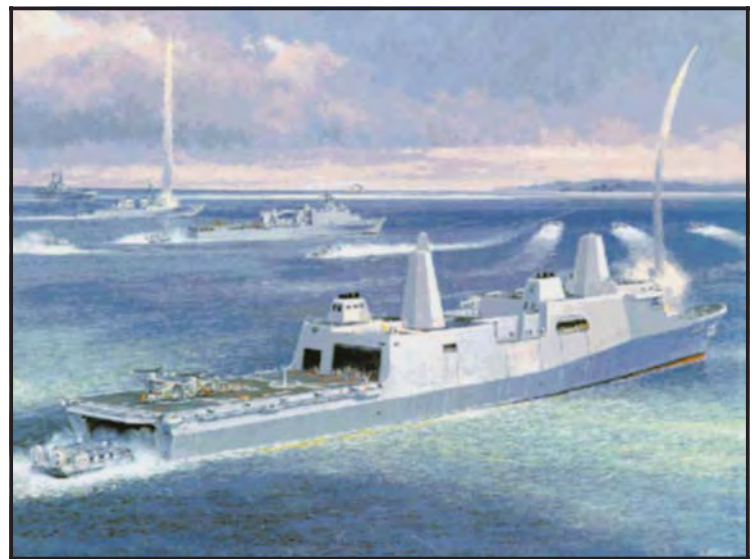

**Figure 1. USS Radford with Advanced Enclosed Mast/Sensor (AEM/S) mast.** (Courtesy U.S. Navy and Space and Naval Warfare Systems Center, San Diego)
The ITD project is critical to the combat effectiveness of U.S. Navy ships, as they house a multitude of important equipment. The topside of a modern U.S. Navy surface combatant is a sophisticated assortment of weapons, electromagnetic (EM) radiators, and other hardware. Large numbers of antennas, transmitters, and receivers are required to meet radar, electronic warfare, information warfare, and communication requirements. An increasing inventory of EM systems is constantly being added to meet requirements for more communications capability (Figure 1). These requirements, as well as aggressive signature reduction goals, create new demands for Integrated Topside Design for Naval surface combatants. The combat effectiveness of Navy ships is limited by the ability to provide advanced Integrated Topside Designs.